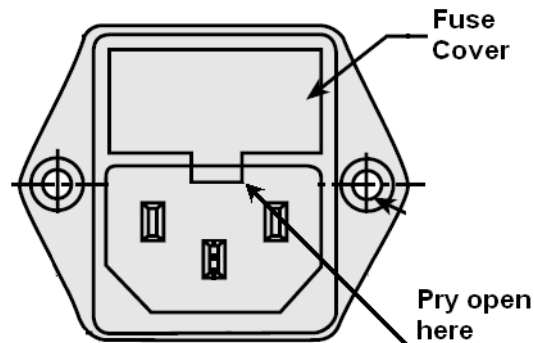

Figure 10.1 - Fuse close-up
3. Carefully remove the fuse from its holder. You may need a small screwdriver or needle-nose pliers to pry open the fuse cover (see Figure 10.1).